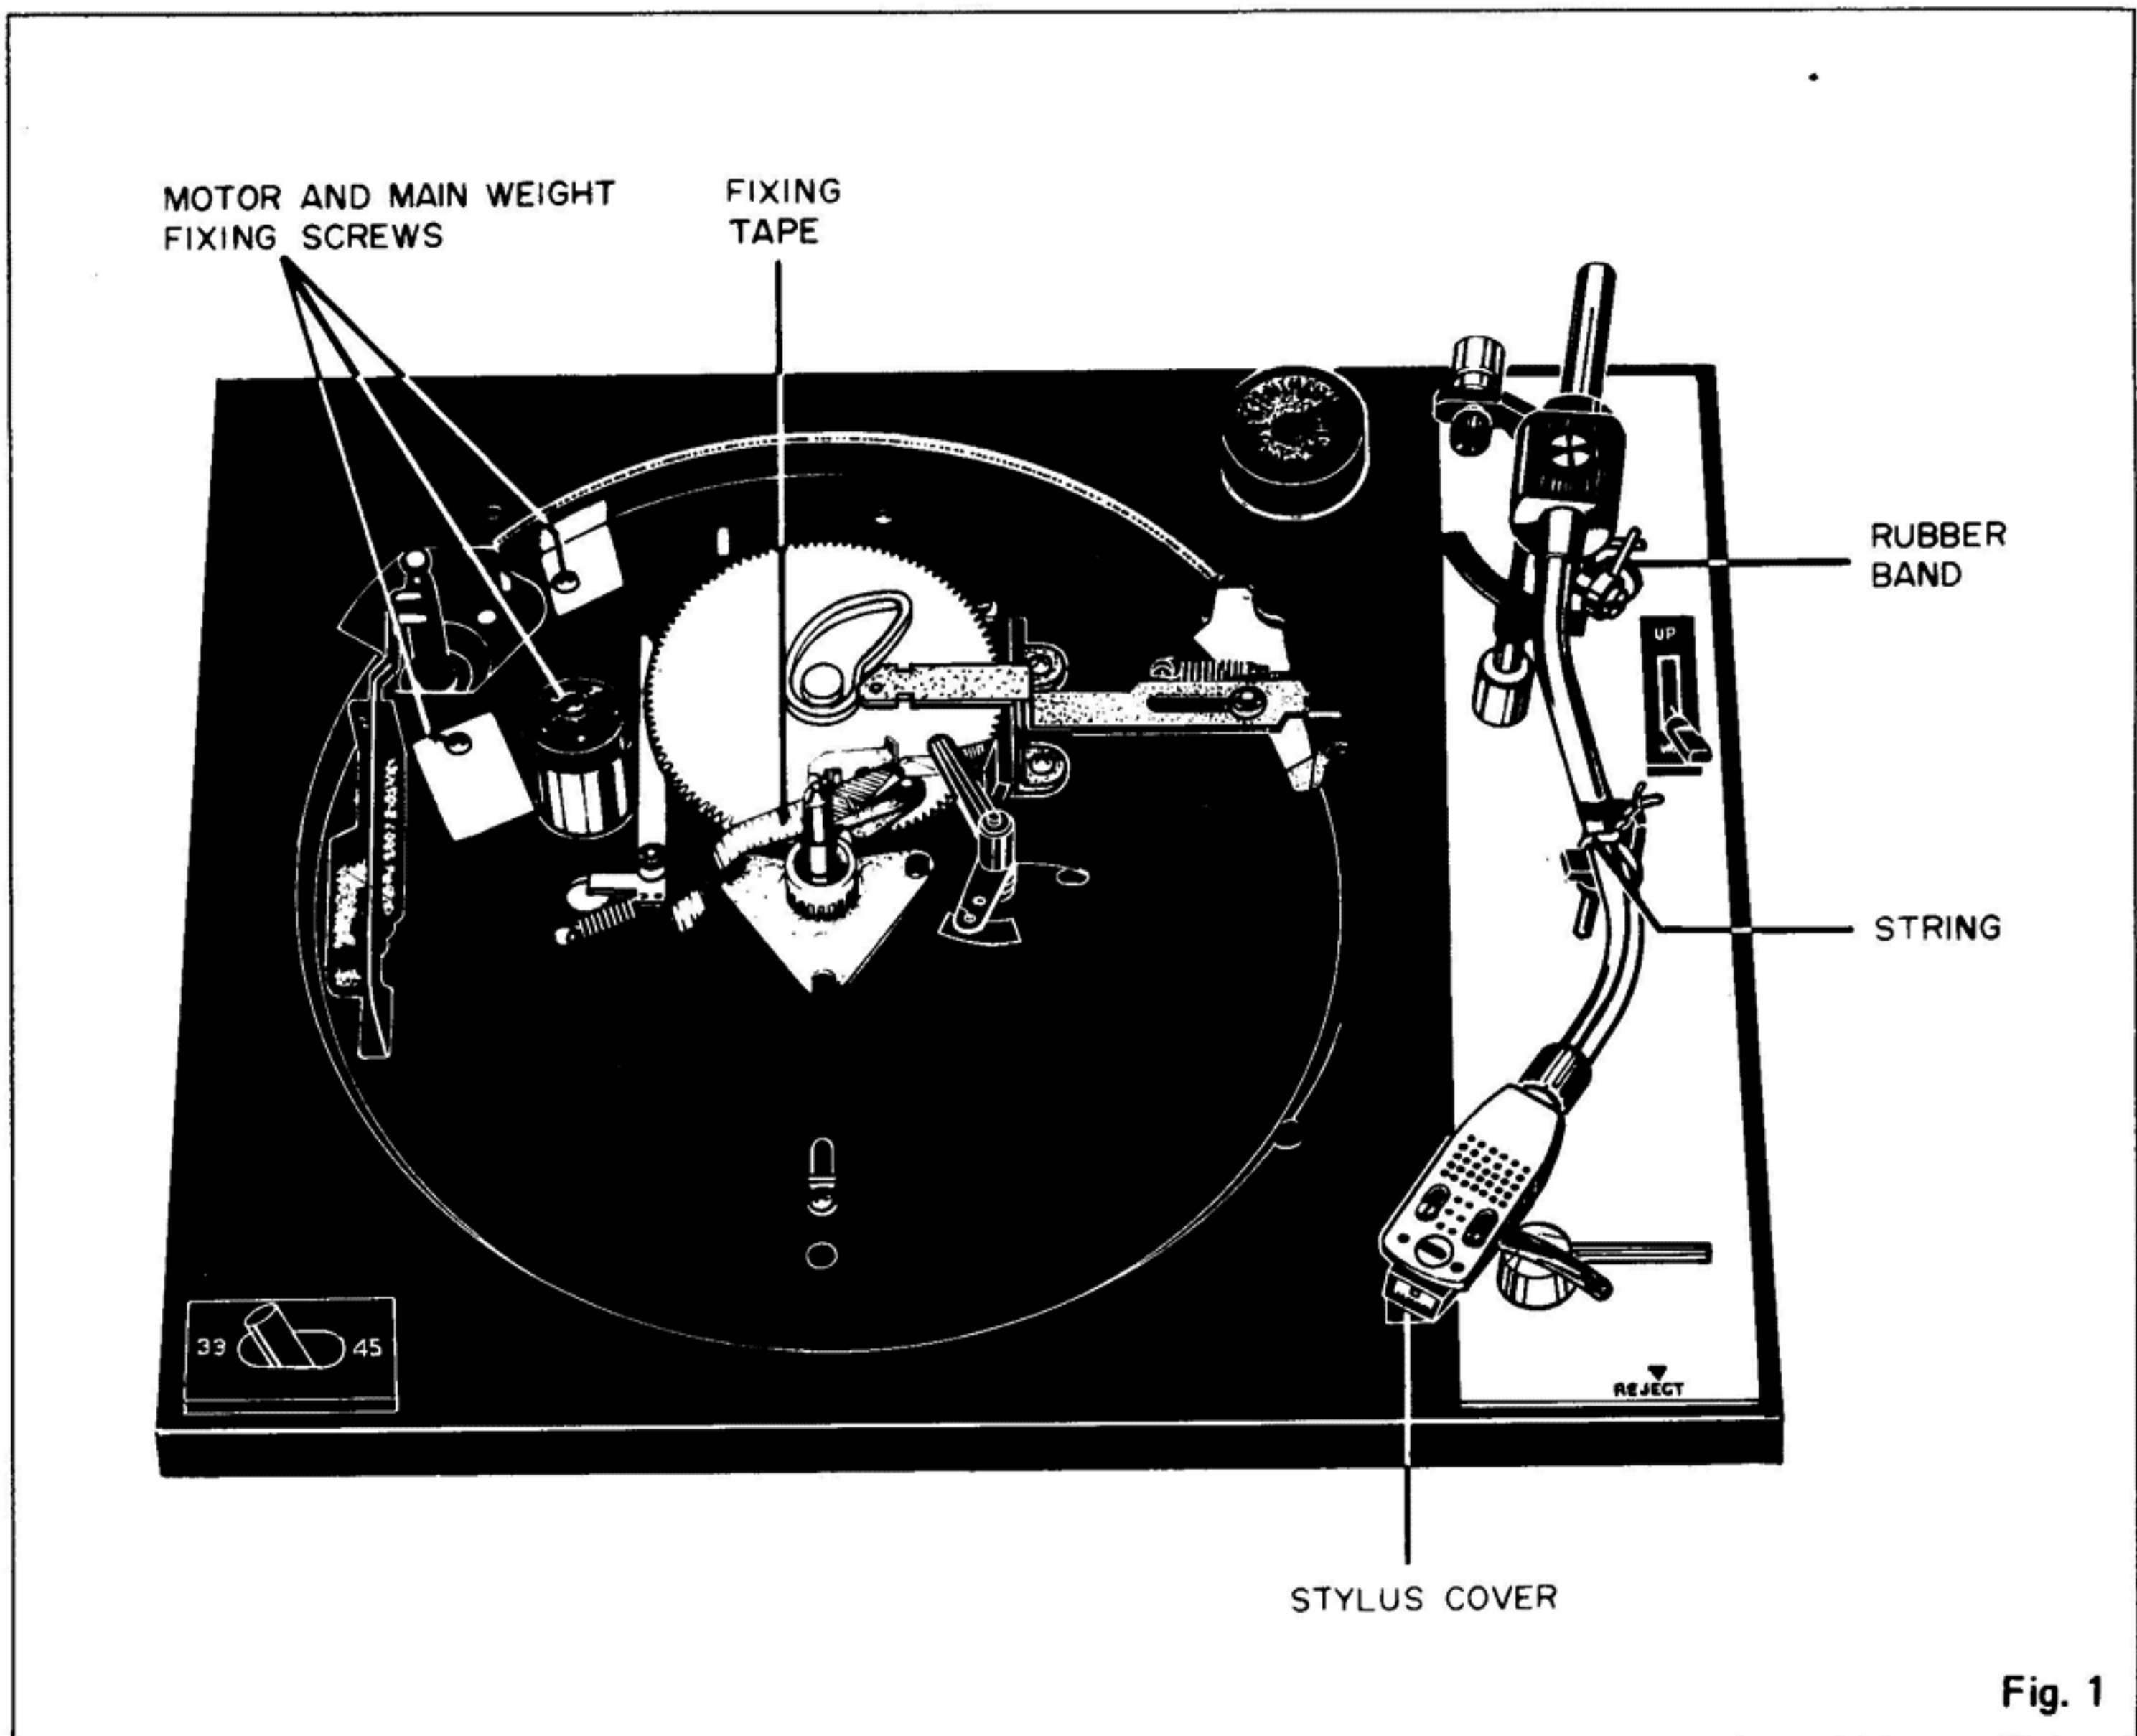

Fig. 1
1. Unpack the unit and remove the two screws which hold down the motor and the main weight during transportation. (Fig. 1)